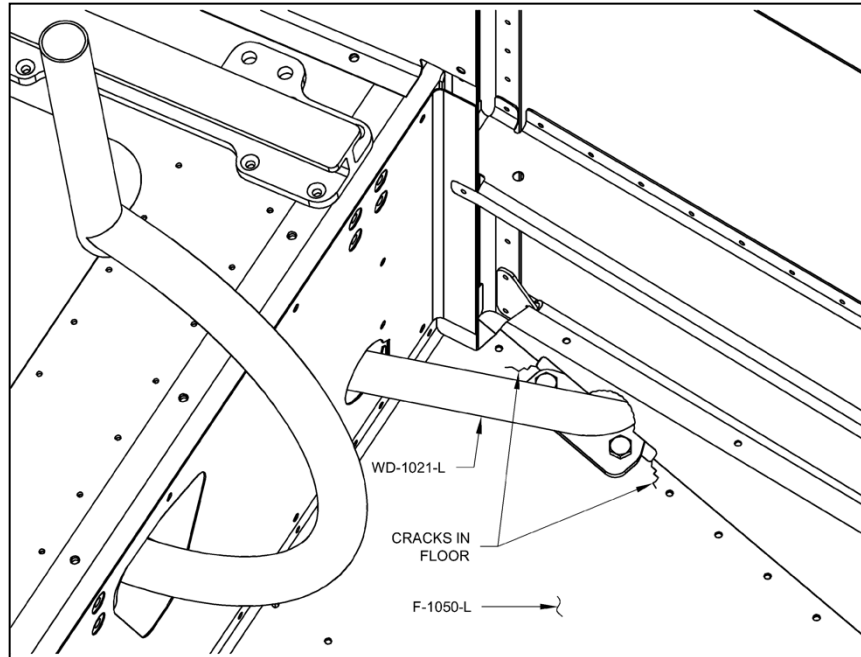
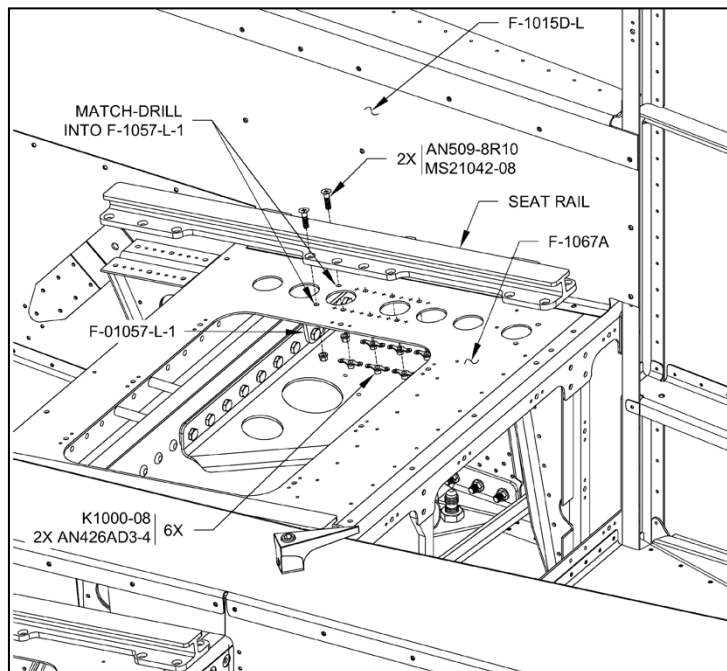

FIGURE 2: FLOOR PANEL CRACKS
FIGURE 13: INSTALLING SEAT FLOOR NUTPLATES
In addition, double check the inspection in SL-00033. Inspect the F-1050 Forward Cabin Floor Panels for cracks propagating from the corners of the cut-outs for the landing gear mounts (see Figure 2). If cracks are discovered in the floor panel, stop-drill the cracks in the floor panels per the instructions in SL-00033.
Step 56: For the nutplates shown in Figure 13, use a nutplate as a drill guide to match-drill #40 the nutplates attach rivet holes into the F-1067A Seat Floor. (Only the nutplates for the outboard seat rails are installed; the installation of the inboard seat rails is unchanged.) Machine countersink the seat floor for the nutplate attach rivets, then install the nutplates.
Step 58: Match-Drill #19 the F-01057-L/R-1 Mid Seat Rail Supports from the two indicated holes in the F-1067A Seat Floors. See Figure 13. Clean out any drill chips/shavings.
Step 59: Install the seat rails using the hardware called out in Figure 13 and on KAI Page 49-03, Figure 2.